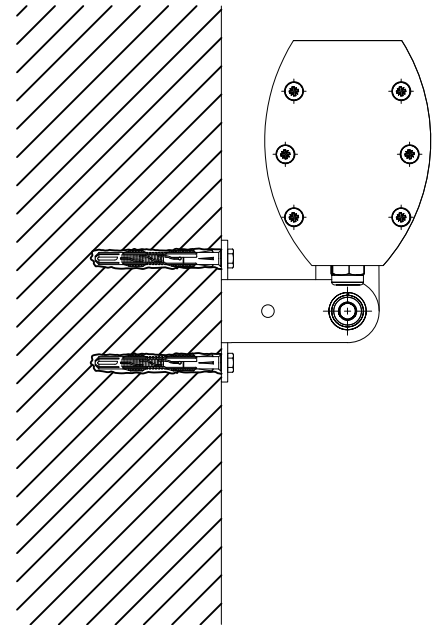

Fig. 2
- First screw the top of the bracket, then turn the luminaire and fix the other side. (Fig. 2)